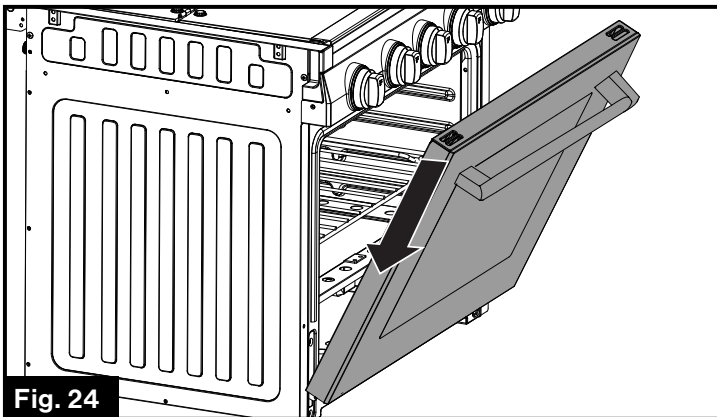
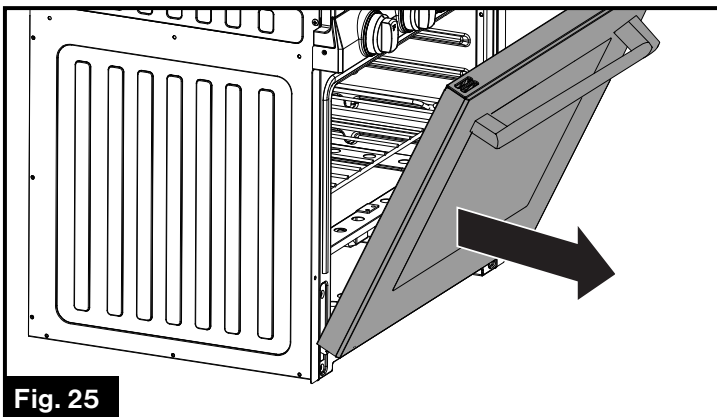
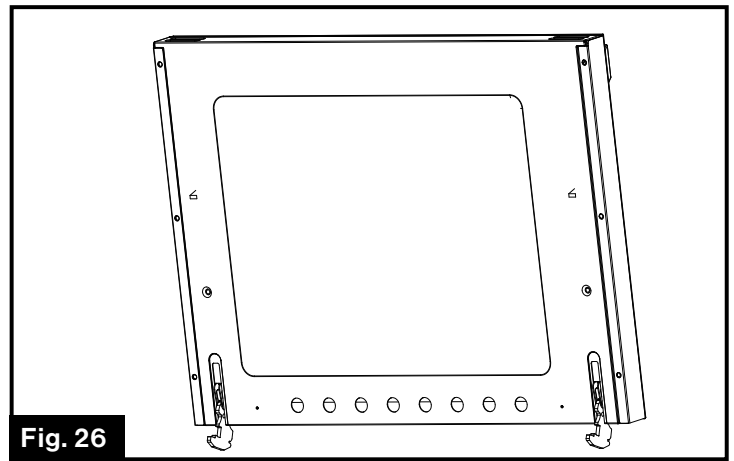

Fig. 24
Fig. 25
Fig. 26
- Holding the door firmly on both sides and using both hands, pull the door straight out of the hinge slots. (Fig. 24, Fig. 25 and Fig. 26) Hold firmly, the door is heavy.